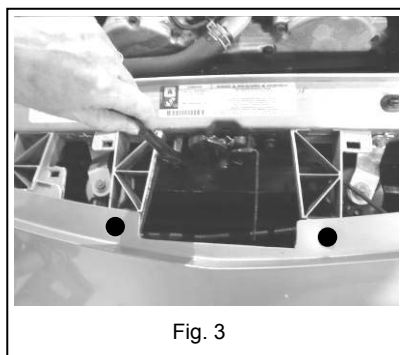
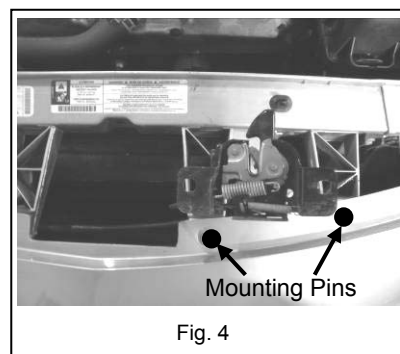

Fig. 3
Fig. 4
3. Fig. 3. Mark the position of the hood latch assembly before removal so that it can be re-attached in the same position. Remove the assembly via the two mounting bolts and position the assembly out of the way as shown in Fig. 4.
4. Fig. 4. Remove two of the plastic mounting pins as shown.